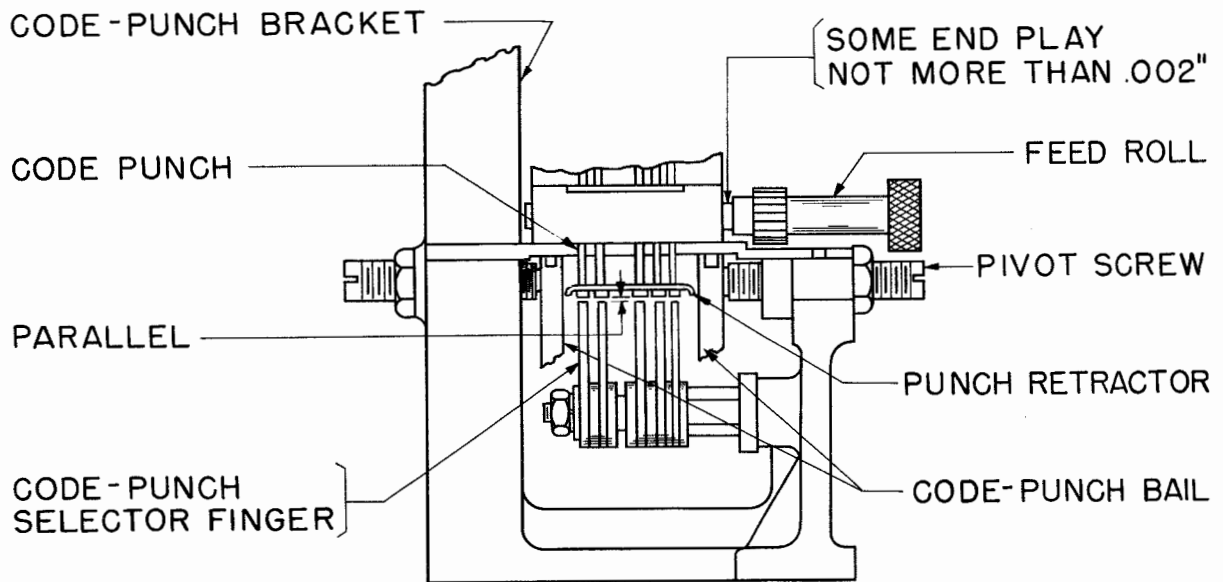

Figure 39
(a) The No. 1 and No. 5 code-punch selector-fingers shall be centered with respect to the No. 1 and No. 5 code punches and the code-punch bail shall have some endplay, but not more than 0.004 inch. See Figure 39.
(b) The punch retractor shall float freely within the bail with the punch-retractor springs removed. See Figure 39.
2.59 Code-punch-bail Pivot-bracket (Final Adjustment): A line across the top of the code-punch selector-fingers shall be parallel to a line across the bottom of the code punches. See Figure 39.
2.63 Code-punch Feed-roll shall rotate freely and shall have some endplay, not more than as indicated in Figure 39, when the tape-tension lever and the code-punch detent-lever are held clear of the feed roll. The feed hole shall be centrally located between the No. 2 and 3 code holes. See Figure 39.
- (1) Unhook the feed-roll detent-lever spring.
- (2) Remove the two code-punch-block-assembly mounting-screws.
- (3) With the BLANK combination selected and the punch arm on the high part of its cam, hold the feed pawl clear and remove the code-punch-block assembly from the punch mechanism. Avoid damaging the punch pins when removing them from the punch retractor.
- (4) Hold the punch-block assembly so that the support plate is upward and remove the two shoulder screws and the two support-plate mounting-screws. Remove the support plate, being careful not to pull out the punch pins.
- (5) Place the proper number of shims on each side of the feed roll to meet the endplay specified in Figure 39. The shims should be slipped on the shaft by means of the slot. Avoid bending or kinking the shims.
- (6) Place the feed roll with the shims in the die block with the wide ends toward the die pins and the straight side toward the bottom of the die block.
- (7) Remount the support plate and the two mounting screws. After tightening the screws, recheck the location of the feed hole in relation to the code holes as specified, when the No. 2 and 3 code punches are operated manually. If the feed hole is not centered between the No. 2 and 3 code-punch holes, shift one or more shims from one side to the other.
- (8) The tape should be held in the die block so that the edges of the tape are parallel with the sides of the block. If the feed roll is rotated so that the left edge of the die plate is midway between two feed-hole perforations, the No. 2 and 3 punch pins will perforate their holes in line with the feed holes. This will aid in gauging the position of the feed roll.
- (9) With the BLANK combination selected, manually rotate the shaft until the punch-arm roller is on the high part of its cam. Place the punches of the code-punch assembly in their lowermost position, move the detent roller clear of the feed-roll ratchet, and hold the feed pawl so that it passes through its slot in the block assembly.
- (10) Engage the punches and the guide shoulder-screws of the punch-block assembly in the retractor slots and replace the front punch-block mounting-screw frictiontight.
- (11) Hold the pivoted transmitter against the punch block and locate the block, within